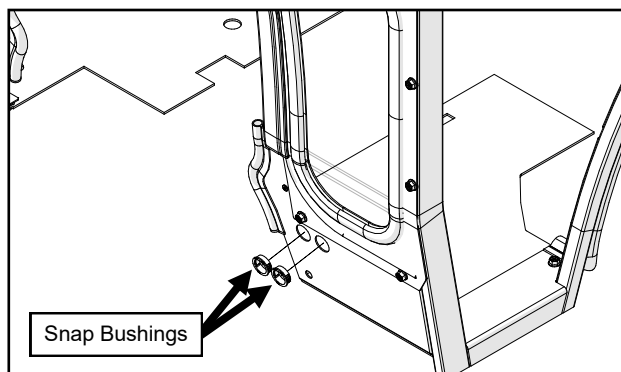

Fig. 17.3 (Snap Bushings)
- 17.3 Install the 2 supplied plastic bushings in the front of the left front leg. See Figure 17.3.